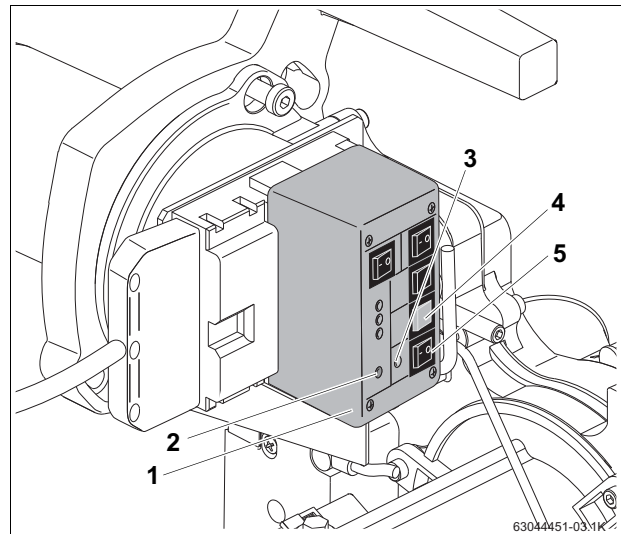

Fig. 9 Bleeding oil line with burner tester
- using the burner tester (Fig. 9, **Item 1**; available separately) – if the oil is to be drawn in by the oil pump attached to the burner.
The procedure for bleeding the oil line using the burner tester (Fig. 9, **Item 1**) is described below. The burner tester is available separately as an accessory.
- Fit burner tester (Fig. 9, **Item 1**) onto burner control unit base.
- Switch on the controller ON/OFF switch. The LED (red) will light up (Fig. 9, **Item 2**).
- Switch on the burner tester using the ON/OFF switch (Fig. 9, **Item 5**). Both LEDs (red and green) will light up (Fig. 9, **Item 2** and **3**).
- Switch on the switch for bypassing the oil preheater (Fig. 9, **Item 4**).